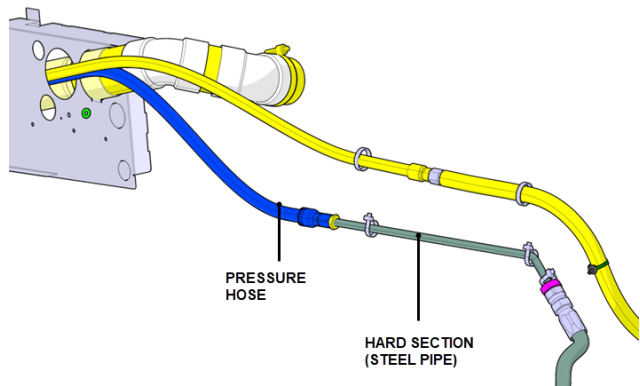

FIGURE 36
15. Locate the discharge hose (pressure) on curbside of the rear wheel well. It is connected to a hard section (steel pipe) which is from the steering pump (fig.36).